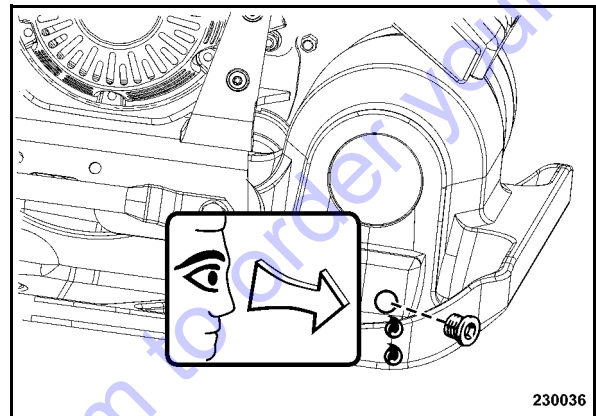

Fig. 52
- Unscrew the plug (Fig. 52) and check the oil level.